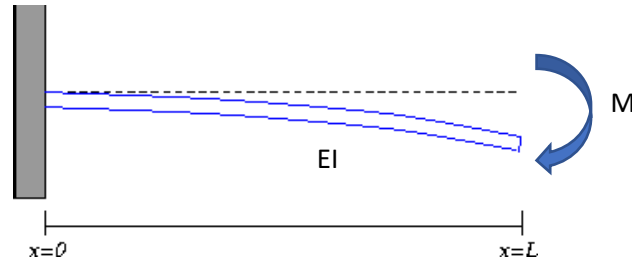

Figure P.4.1.
4. Deflection of aluminum beam that is clamped at one end and given the load as shown in figure P.4.1 can be calculated using the Bernoulli-Euler theory as follows: